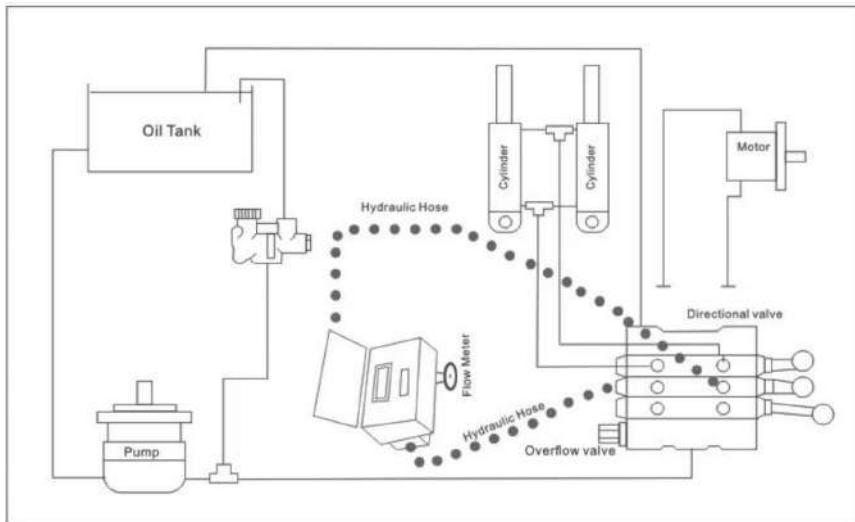

图 A3
Linear testing of directional control valve (the connection method of the tester is shown in Figure A3)
5.3 Hydraulic cylinder test (see Figure A3)
Install the flow tester according to the method shown in Figure A3. Perform the action of raising or lowering the hydraulic cylinder. At the same time, pay attention to recording the test values of flow and pressure on the tester, and record the time required for the hydraulic cylinder to reach full stroke.
Install a flow tester upstream of the motor circuit according to the connection method shown in Figure A3.
The motor and hydraulic cylinder can also be tested using the method shown in Figure A3.